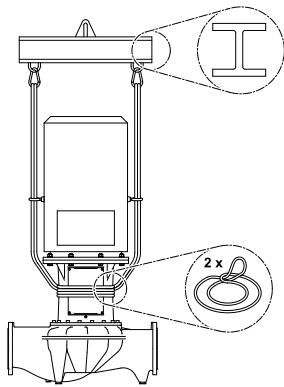

Fig.33: Fitting load slings
- To lift with the crane, the pump must be supported by suitable belts as shown in (Fig. 33). Place loops around the pump which tighten from the pump's own weight.